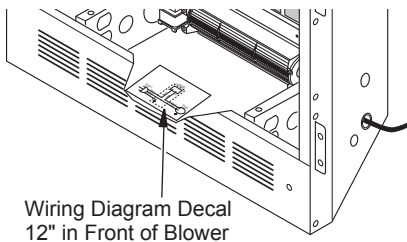

Figure 27 - Location of Wiring Diagram Decal (Model May Vary From Illustration)
- Peel off the backing paper and stick the supplied wiring diagram decal on the firebox bottom approximately 12" in front of the blower (see Figure 27).
11. Peel off the backing paper and stick the supplied wiring diagram decal on the firebox bottom approximately 12" in front of the blower (see Figure 27, page 20).